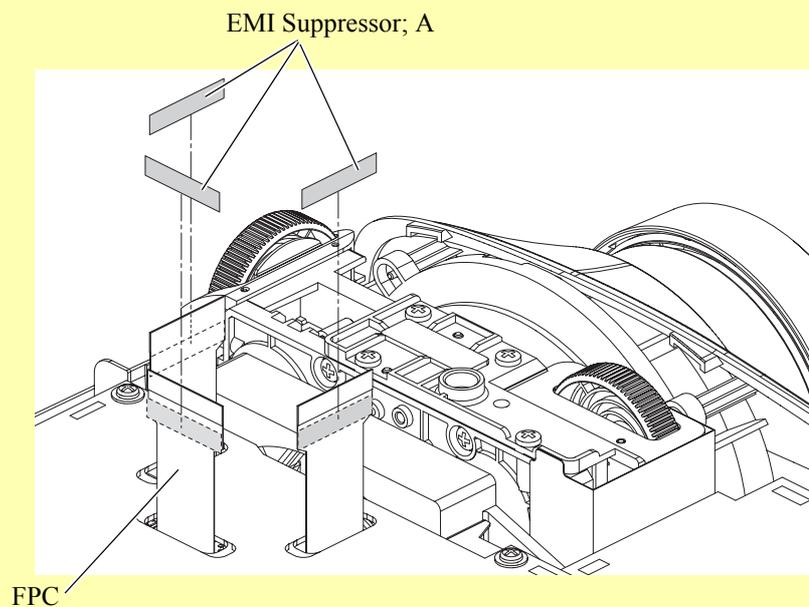

Figure 4-32.
- Attach the EMI Suppressor; A onto the outside of each FPC (R/G/B) as shown in Figure 4-32.
- 1). Route the Exhaust Fan Cable and TH Board Assy. Cable as shown in Figure 4-32. Make sure not to let the parts of the cables shown in the dotted circle slacken.